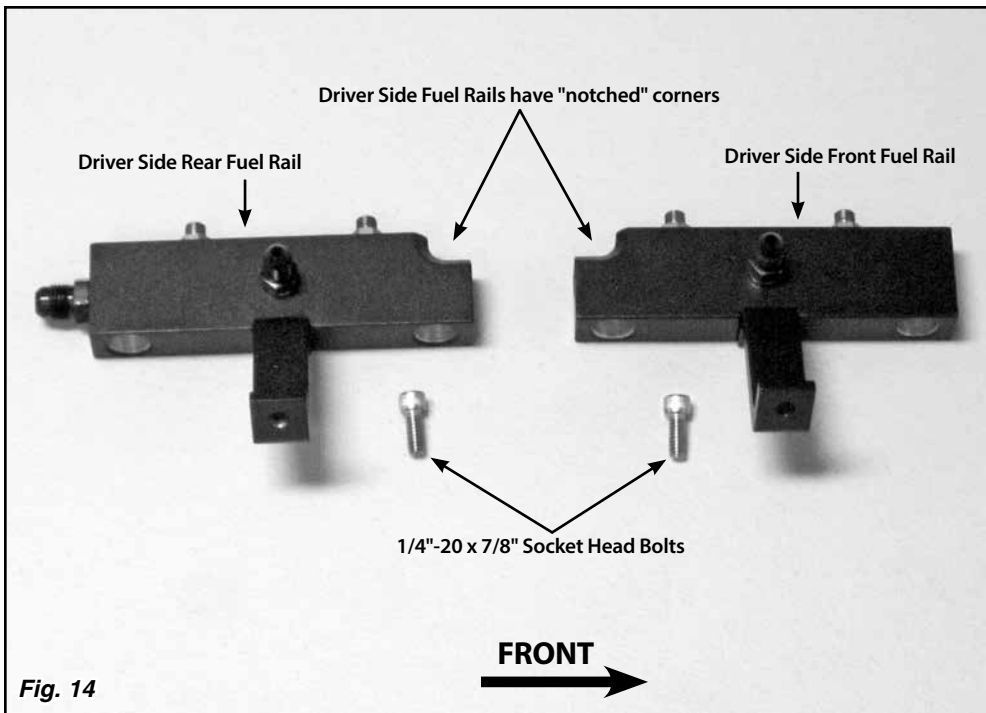

Fig. 14
Step 14: Determine the correct position of the four fuel rails on the lower manifold. Note that the driver side rear and passenger side rear fuel rails (with the -6 AN fittings on the ends) will be installed with the -6 AN fittings pointing towards the rear of the engine. Two of the fuel rails are "notched" in one corner to provide clearance for the throttle body adapter and will be installed on the driver side of the manifold. **Fig. 14**